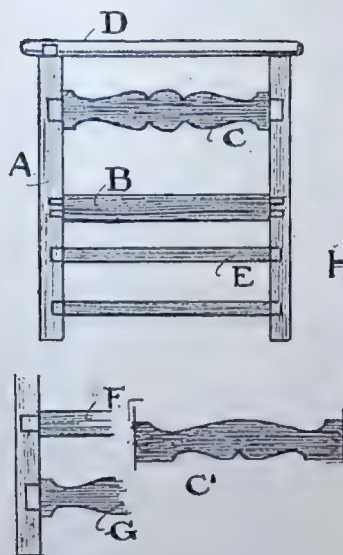

FIG. 3.—DETAILS OF WINDOW SEAT (FIG. 1).
legs, as indicated at Fig. 3, carry a short tenon at top, and are mortised for front and back seat rails (F) and the shaped rails under (G), also the shaped side rails (C), two lower rails (E), and are holed for the rails (B) to be dowelled in.
THE SHAPED RAILS (C) will relieve the sides from plainness, an alternative outline being noted at C1 (Fig. 3). Allowing for tenons they can be cut from pieces 10 ins. by 2½ ins., the finishing width being 2½ ins. by ¾ in. net.